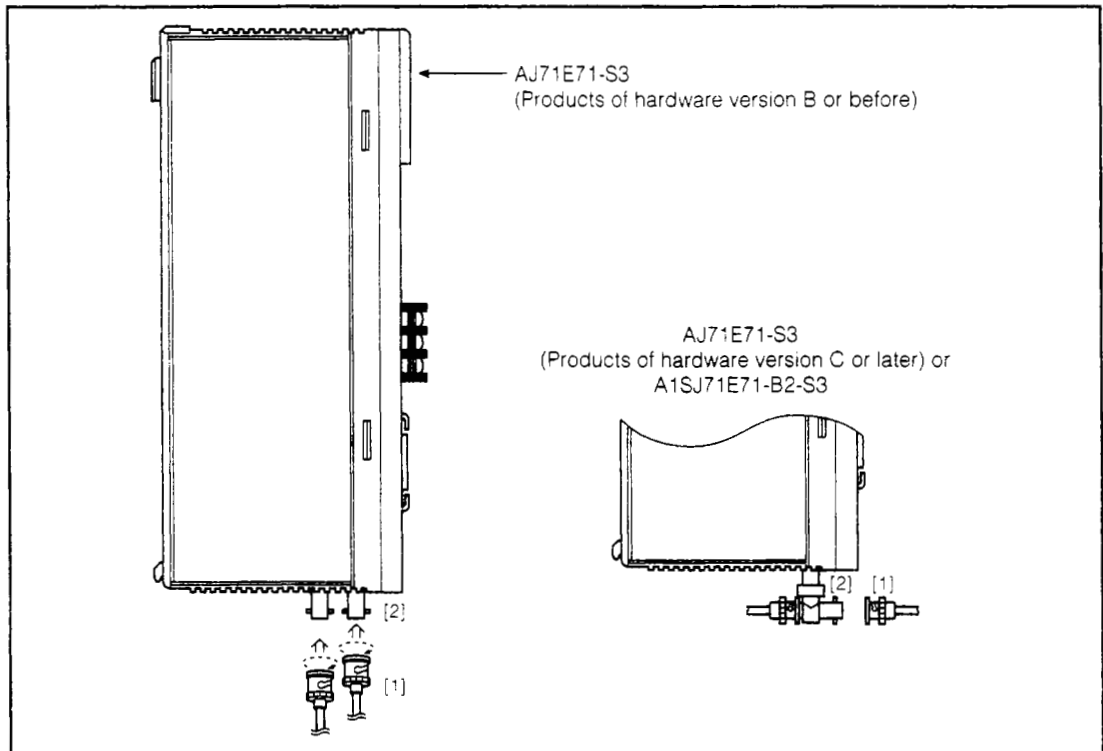

Fig 4.2 10BASE2 Coaxial Cable Connection Diagram
- (1) As shown in Figure 4.2, line up and push in the lip [2] into the groove [1].
- (2) Turn the connector 1/4 rotation to the right while pushing it in.
- (3) Turn the connector until it locks.
- (4) Check that the connector is locked.